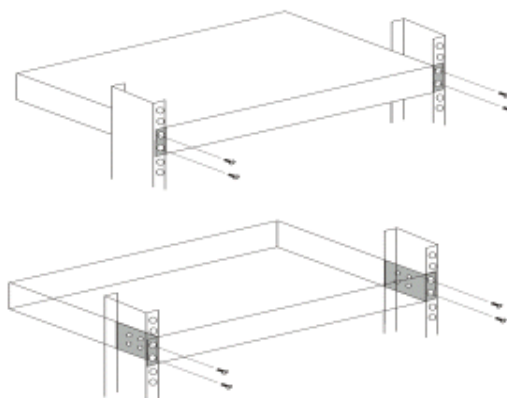

Figure 2-1. EPS-3128 Switch Rack-mounting
**Step 2.** Align the mounting holes in the brackets with the desired holes in the rack, and insert screws through each bracket and into the rack. (See Figure 2-1)